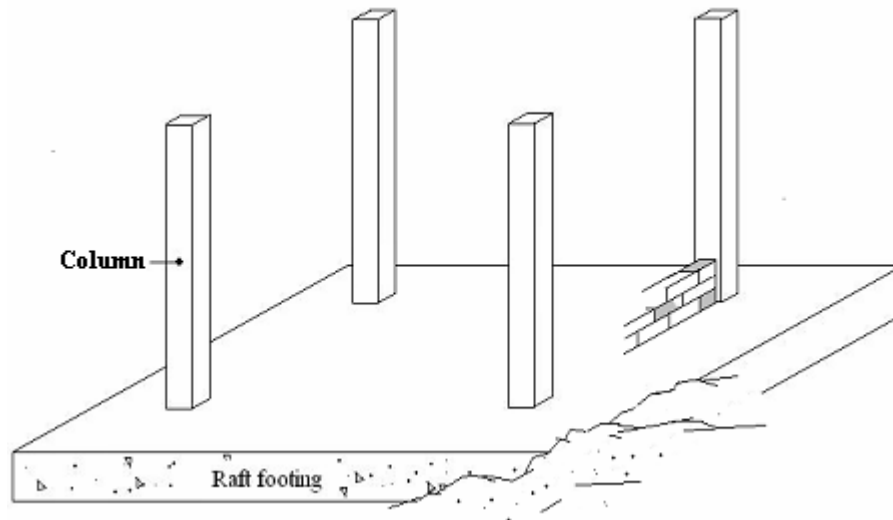

Figure 4
4. Figure 4 shows the raft footing for a small building measuring 5000mm x 3000mm. Belows are the informations about the structure: